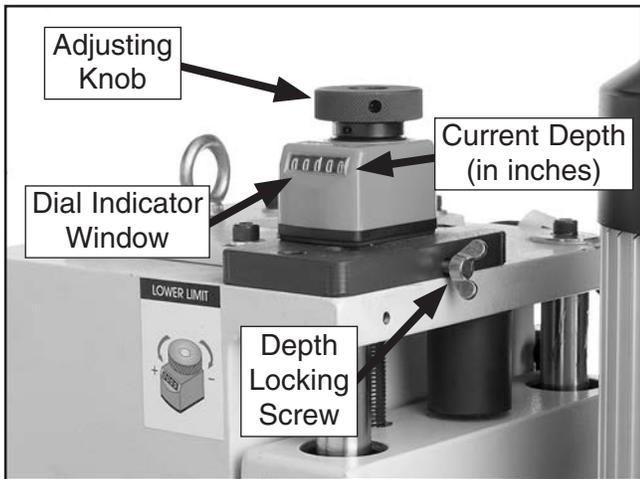

Figure 20. Boring bit depth control.
The drilling depth is precisely adjusted by using the depth control on top of the headstock column (see **Figure 20**). The depth control window shows the drilling depth in inches, with the last two digits as decimals.
1. Loosen the depth locking screw shown in **Figure 20**.